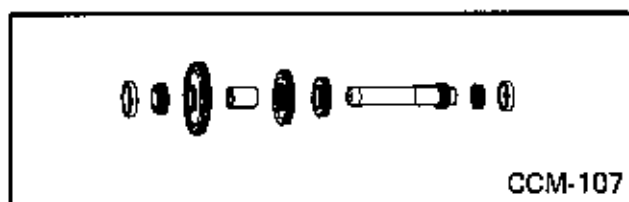

Fig. 102
4. Install intermediate front bearing cup and snap ring, intermediate shaft assembly, rear bearing cone, cup, shims, and cap. Add or remove shims to adjust bearing pre-load to 2-6 in. lbs. See Fig. 102 for assembly sequence.